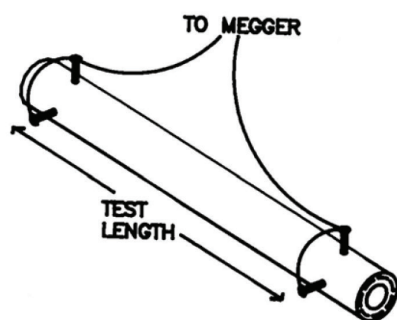

Fig. 6-2 - Nail or "Pot Room" Test
3. Pierce sample ends with clean nails, as shown in Fig. 6-2.
4. Connect nails to 1000-volt DC power source and megohm meter or 1000 volt "megger" as shown in Fig. 6-2.
6. Measure "test length" as shown in Fig. 6-2.